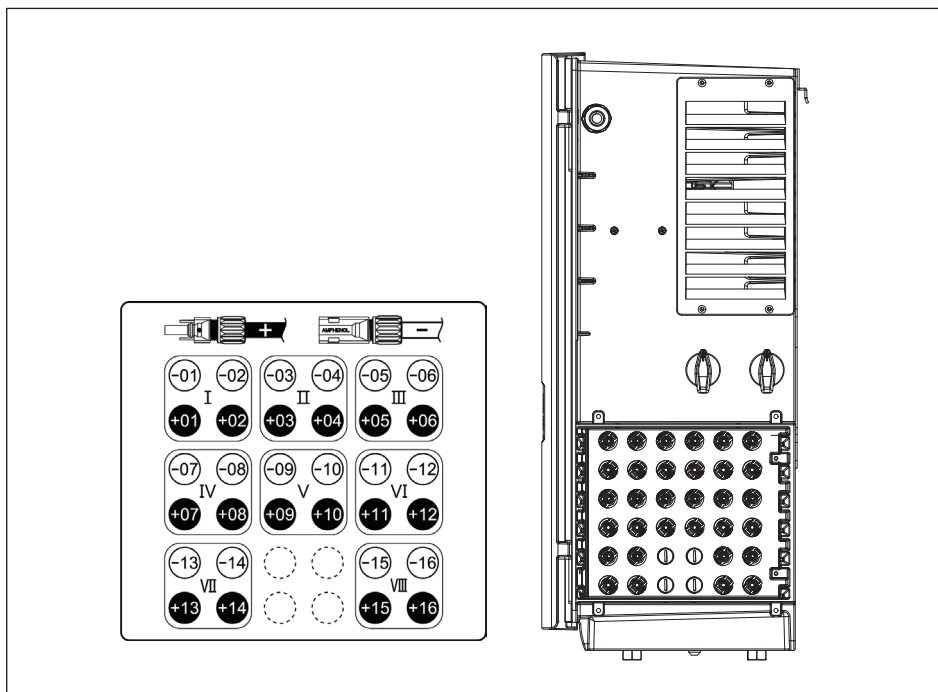

Figure 3-18: Location of H4 connectors to connect array wiring (DC)
- (1) Before the installation, ensure the two DC switches are in the "OFF" position and be locked for protection. If it can be "ON" during the DC wiring installation, it may cause DC connector or inverter damage. Even more, it has the risk of electric shock.
- (2) Install the connector holder as shown below.
- (3) According to **Figure 3-18**, follow the DC input pairs and the polar to plug in the connector. Remind, two PV strings have the same series-quantity in one MPP tracker.
- (4) Unused DC connectors of the inverter or DC wirings must plug the protective cover.
- (5) Ensure all DC wirings are connected to the inverter well and correct. Switch ON two DC connectors to finish the installation.